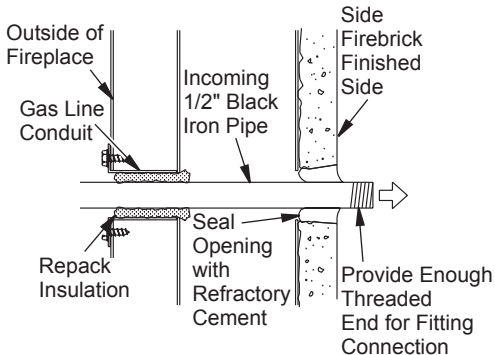

Figure 19 - Gas Line Installation
3. Run a 1/2" black iron gas line into fireplace through the rear at gas line conduit sleeve (if using a raised platform, add height). Provide sufficient gas line into fireplace chamber for fitting connection (see Figure 19).